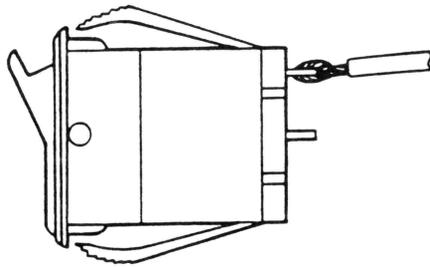

FIGURE 5
- a. **THREE-TERMINAL SWITCH:** Thread either lead through the hole in either outside terminal and crimp it with the pliers, so that the lead forms a loop around the end of the terminal (Figure 5). Attach the other lead to the middle terminal in the same way.
TWO-TERMINAL SWITCH: Clean the terminals of the switch with an eraser; then tin them. Then thread one lead through each terminal and crimp it with pliers, to form a loop around the end of the terminal as in Figure 5.